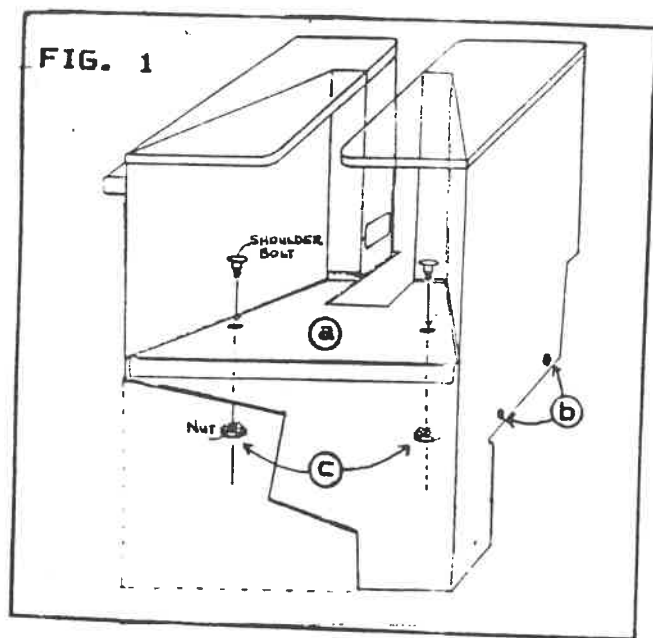

FIG. 2
- a) To test switch #1 (Refer to FIG. 2 for testing positions) place the 2 oz. block along positions A, B, & F while watching the Tape Wrong indicator in Diagnostics. If YES appears for all positions, the Actuation pad for switch 1 may need to be moved off center (to desensitize it).
4. Move the 2oz. weight along all the lettered positions shown in FIG. 2 while checking that Tape Wrong= NO in Diagnostics. Continue to make slight adjustments to oversensitive switches until Tape Wrong= NO with weight at all lettered positions.